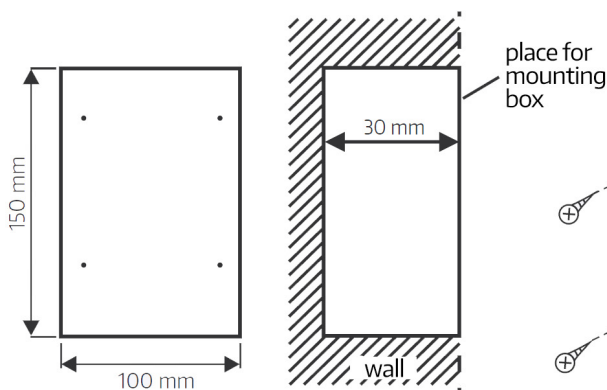

fig. 6
1. Drill a hole in the wall to match the size of the mounting box and attach to the wall (fig. 6).